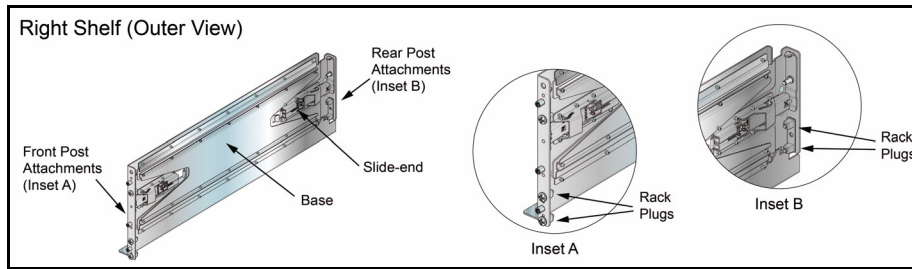

Figure 5: Right Shelf – Outer View
Figure 5 displays the outside view of the right shelf, from where rack plugs and guide pins that insert into rack posts are visible (Insets A and B). To install shelves into posts with threaded or rounded holes, attach the shelves with bolts that fit the rack. Remove all plugs from the shelves if present.
Step 1 If applicable, verify that both locking mechanism latches on the shelf are open (Figure 5, insets A and B). Racks that do not require the locking mechanism, skip to Step 2.
Step 3 Close the front locking mechanism latch (Figure 5).
Step 6 Close the rear locking mechanism latch (Figure 5).